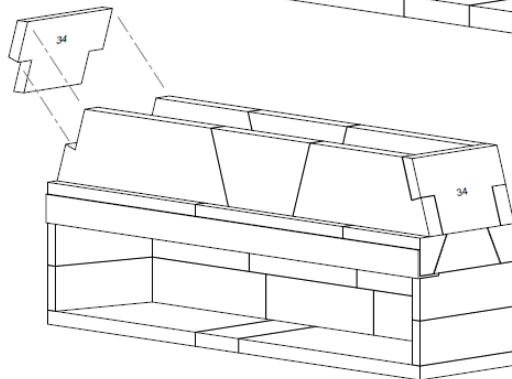

FIGURE 15
- 8) With the front/rear smoke dome components in place, apply Earthcore Adhesive to all adjoining surfaces of the sloping smoke dome sidewall components. The sloping smoke dome side walls will be placed in between the front and rear smoke dome components at the ends of the firebox and are designed to rest in their notched ends. Once assembled, compress the smoke dome components by applying pressure to the front/rear of the smoke dome assembly to force the components together. Repeat this process on the opposite side of the firebox (**Figure 15**).